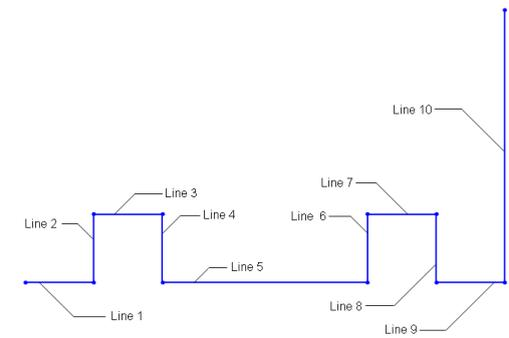

Figure 2-70 Partial outer loop of the sketch
- c. Draw the outer loop of the sketch, refer to Figures 2-70 and 2-71.
- Click when the length of the line above the line cursor is displayed as 10; a horizontal line is created. Refer to Line 1 in Figure 2-70.
- Click when the length of the line above the line cursor is displayed as 10; a vertical line is created. Refer to Line 2 in Figure 2-70.
- Move the line cursor horizontally toward the right. Click when the length of the line above the line cursor is displayed as 10; the next horizontal line of 10 mm length is drawn. Refer to Line 3 in Figure 2-70.
- Move the line cursor vertically downward and click when the length of the line on the line cursor is displayed as 10. Refer to Line 4 in Figure 2-70.
- Move the line cursor horizontally toward the right and click when the length of the line on the line cursor is displayed as 30. Refer to Line 5 in Figure 2-70.
- Move the line cursor vertically upward and click when the length of the line on the line cursor is displayed as 10. Refer to Line 6 in Figure 2-70.
- Move the line cursor horizontally toward the right and click when the length of the line on the line cursor is displayed as 10. Refer to Line 7 in Figure 2-70.
- Move the line cursor vertically downward and click when the length of the line on the line cursor is displayed as 10. Refer to Line 8 in Figure 2-70.
- Move the line cursor horizontally toward the right and click when the length of the line on the line cursor is displayed as 10. Refer to Line 9 in Figure 2-70.
- Move the line cursor vertically upward and click when the length of the line on the line cursor is displayed as 40. Refer to Line 10 in Figure 2-70.